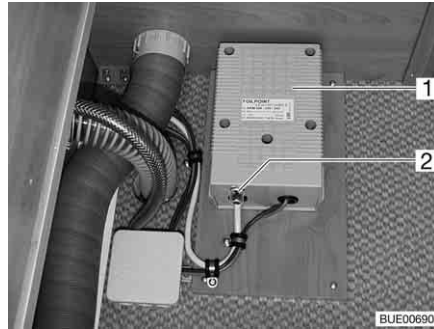

Fig. 108 Transformer for electrical floor warming unit
The transformer (Fig. 108,1) for the electrical floor warming unit is installed either in the bench seat or in the bedding box, depending on the model.
If the transformer is overloaded, the overload protection is actuated. The pin (Fig. 108,2) jumps out.
- Press the pin (Fig. 108,2) on the overload protection when the transformer is cooled.